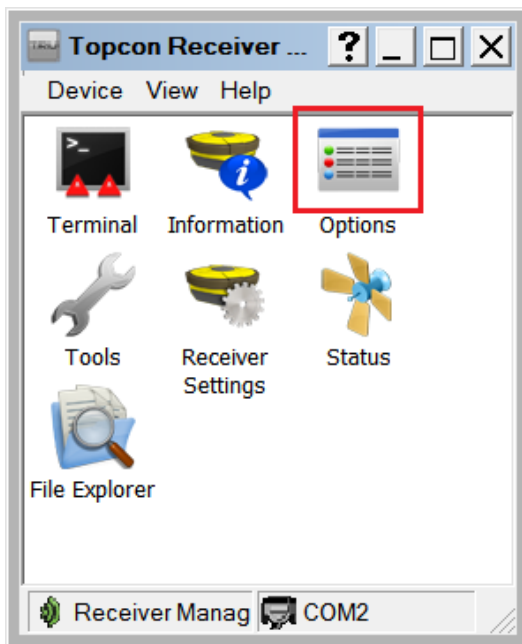

Figure 26: Click Options
- Click **Options** (Figure 26). The **Receiver Options** window displays.